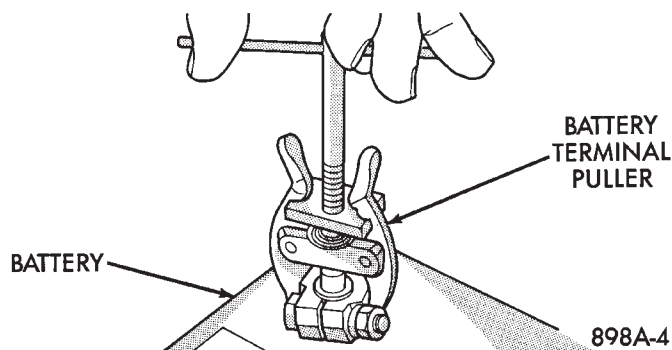

Fig. 15 Remove Battery Cable Terminal Clamp - Typical
(1) Turn the ignition switch to the Off position. Be certain that all electrical accessories are turned off.
(2) Loosen the battery cable terminal clamps and disconnect both battery cables, negative cable first. If necessary, use a puller to remove the terminal clamps from the battery posts (Fig. 15).
(3) Inspect the battery cable terminal clamps for corrosion and damage. Remove any corrosion using a wire brush or a post and terminal cleaning tool, and a sodium bicarbonate (baking soda) and warm water